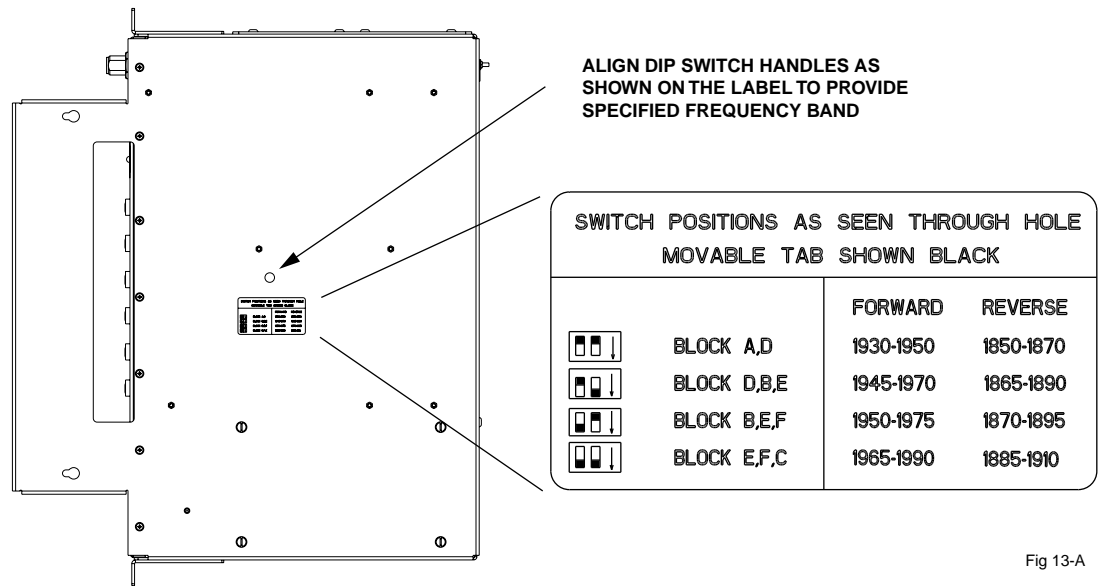

Figure 14. 1900 MHz DHU Frequency Band Selection
2. Orient the DHU as shown in Figure 14 and then locate the small hole in the bottom of the DHU that provides access to the band select DIP switch.
3. Use a non-conductive probe to align the DIP switch sliding handles to provide the required frequency band (see Figure 14).